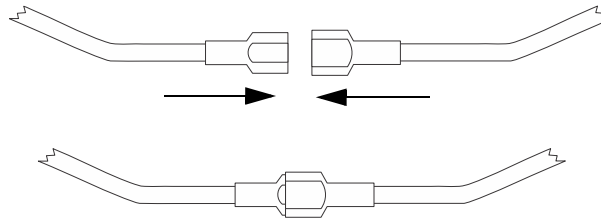

Figure 4.8 Splicing Control Panel Battery Cable to RBB/AB-55 Battery Cable Extenders
2. Connect the main control panel battery cables to the battery cable extenders as shown in Figure 4.8.